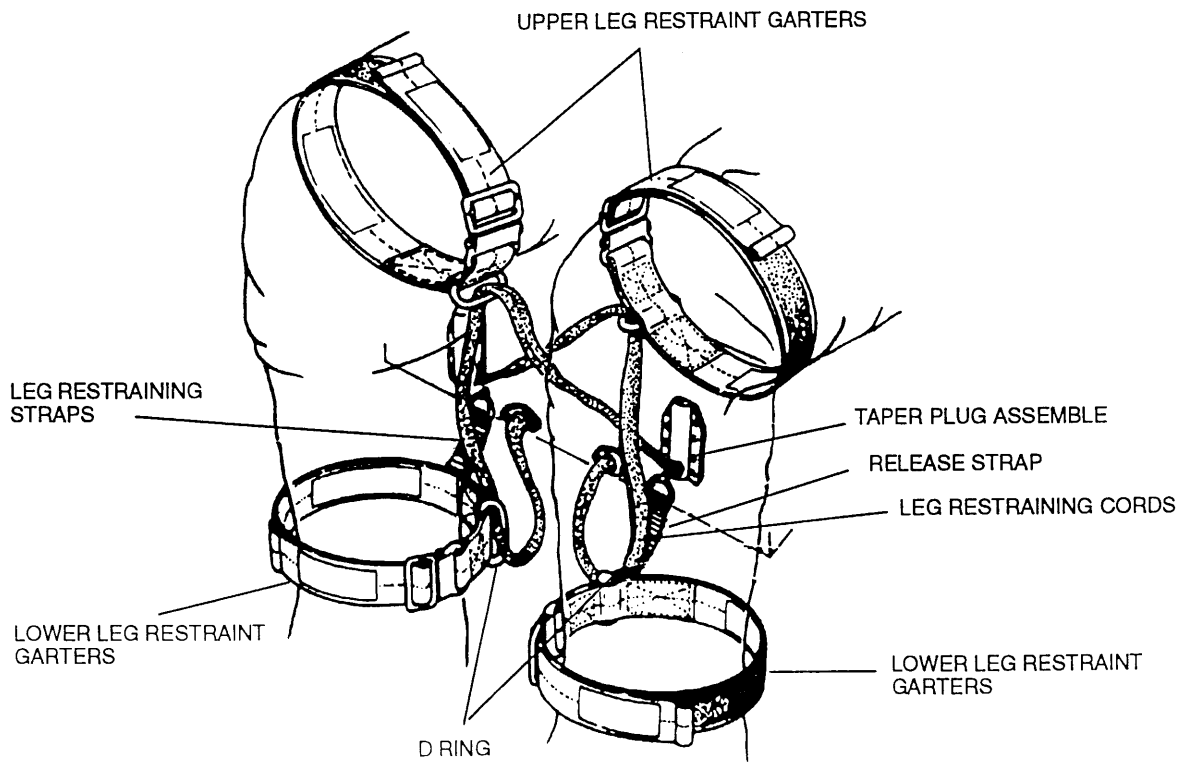

Figure 2-2
2. Attach leg lines as follows (refer to Figure 2-2):